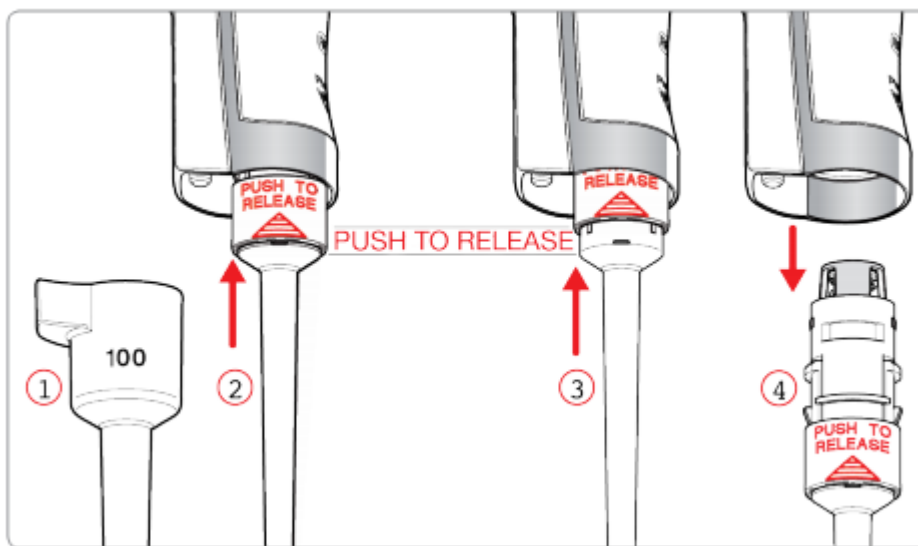

Figure 2: Removing the Lower Part
8.6.3. Remove the ejector sleeve by holding down the ejection button and pulling on the ejector sleeve (Figure 2: Step 1).
8.6.4. Slide up the ring on the lower part with the label "PUSH TO RELEASE" approximately 5mm until the lower part is released (Figure 2: Step 2 & 3).
8.6.5. The lower part is then removed from the upper part (Figure 2: Step 4).